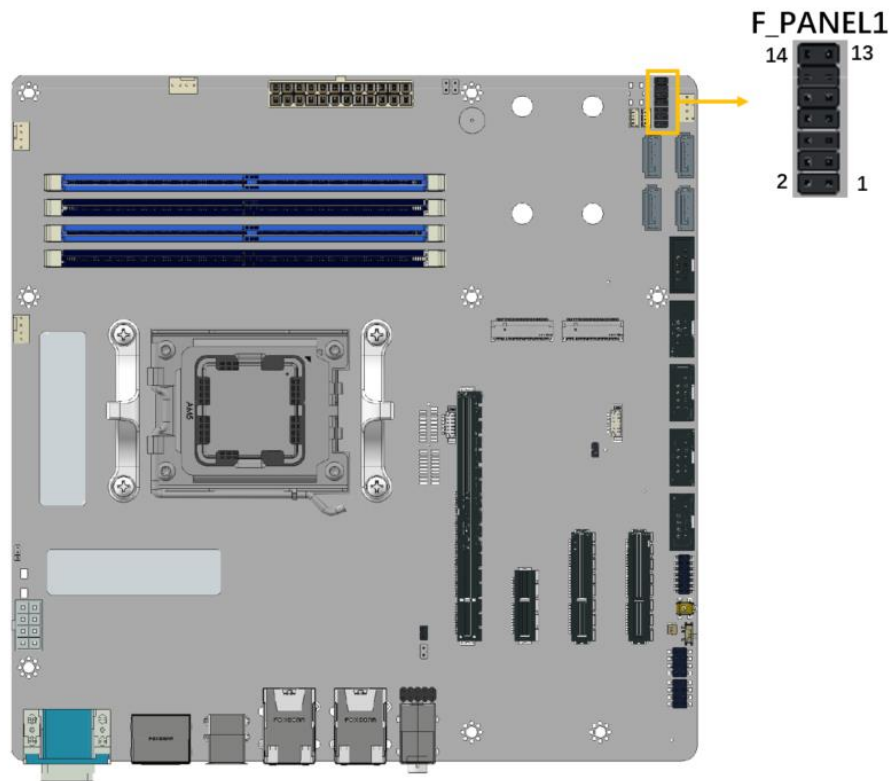

Figure 4-4: Front Panel Connector Location
- CN Location:** See Figure 4-4